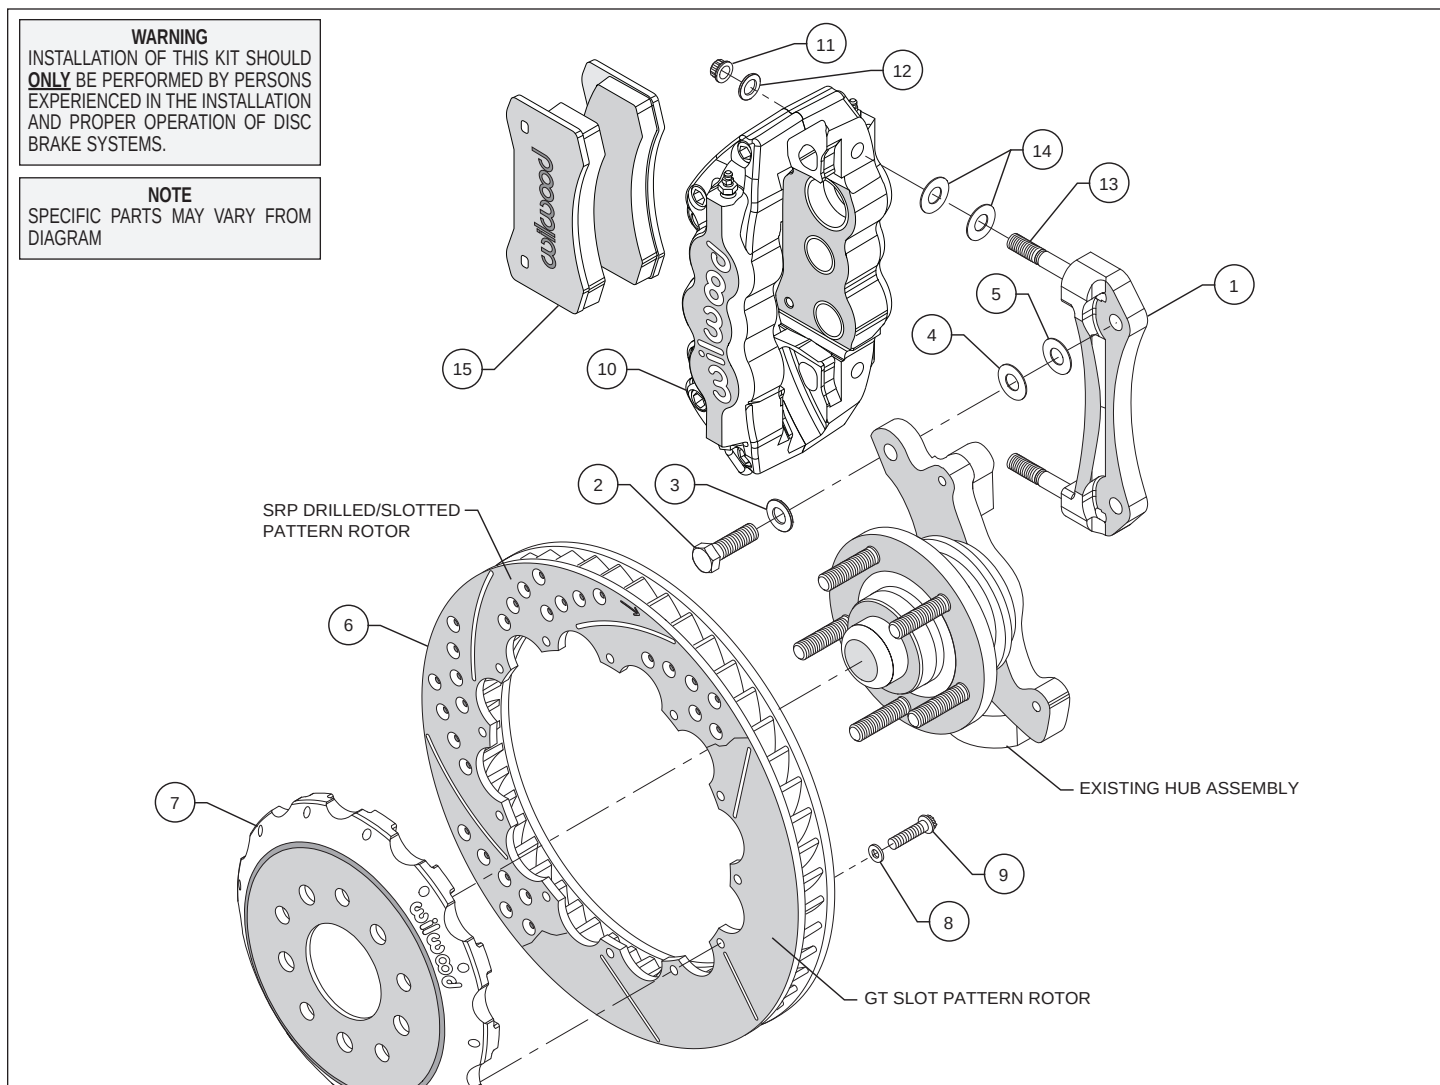
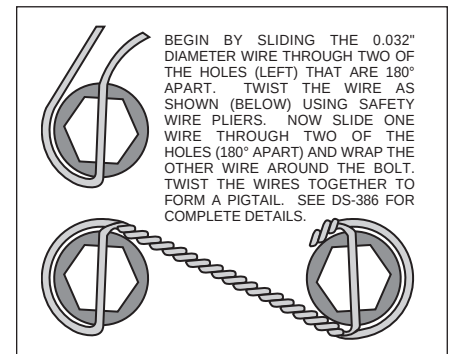

Figure 1. Typical Installation Configuration
Figure 4. Safety Wire Diagram
- The caliper mount bracket assembly (1) should be installed first with clean, dry threads on the mounting bolts. Install the bracket on the inboard side of the spindle by sliding bolt (2) through flat washer (3), and spindle ear from the outboard side of the spindle. Place two shim washers (5) between the bracket (1) and the spindle (see figure 1). The bracket must tighten squarely against the inboard side of the modified caliper mount bosses on the spindle body. Inspect for interference from casting irregularities, machining ridges, burrs, etc. Later, after the caliper, pad, and rotor alignment has been checked, and any necessary shims have been put in place, the mount bolts should be coated with red *Loctite*® 271 and torqued to 60 ft-lbs.
- With the larger I.D. side of the rotor (6) facing away from the hat (7), bolt the rotor (6) to the hat (7) through the backside of the rotor using washers (8) and bolts (9) provided in the configuration pictured in figure 1. Using an alternating sequence, apply red *Loctite*® 271 to the threads and torque bolts to 155 in-lb. For an added measure of security, the bolts may be safety wired using standard 0.032 inch diameter stainless steel safety wire as shown in Figure 4. Please refer to Wilwood's data sheet DS-386 (available at www.wilwood.com/Pdf/DataSheets/ds386.pdf) for complete safety wire installation instructions.
- Lubricate caliper mounting studs (13) and nuts (11) with lightweight oil. Install two shims (14) over each stud (13) on the radial mount bracket. Slide the caliper (10) in place over the studs and rotors and install the washer (12) and lock nut (11) to hold the caliper in place. The caliper bleed screws should be pointing up. Snug the lock nuts (11) and check that the rotor (6) is centered in the caliper (10). Add or subtract shims (4 and/or 5) as necessary between the mounting bracket (1) and the spindle to center the caliper (10).
- Remove the two caliper pad retaining pins from the caliper (10) by popping out the pin retaining clips and sliding out the pins. Slide the brake pads (15) into place. They should install easily without interference. Check that the outside radius of the brake pad is flush with the outside diameter of the rotor face. Add or subtract shims (14) between the caliper and mounting bracket (1) to gain the proper alignment. Reinstall the pad retainer pins and secure using the pin retaining clips.
- Once all clearances have been checked, remove the wheel, caliper, hat, and rotor from the spindle and hub. Secure the caliper mounting bracket (1) to the spindle using red *Loctite*® 271. Torque the bolts to 60 ft-lbs. Reinstall the hat and rotor assembly and again use three lug nuts to hold it in place. Reinstall the caliper, torque the caliper nuts (11) to 30 ft-lbs.